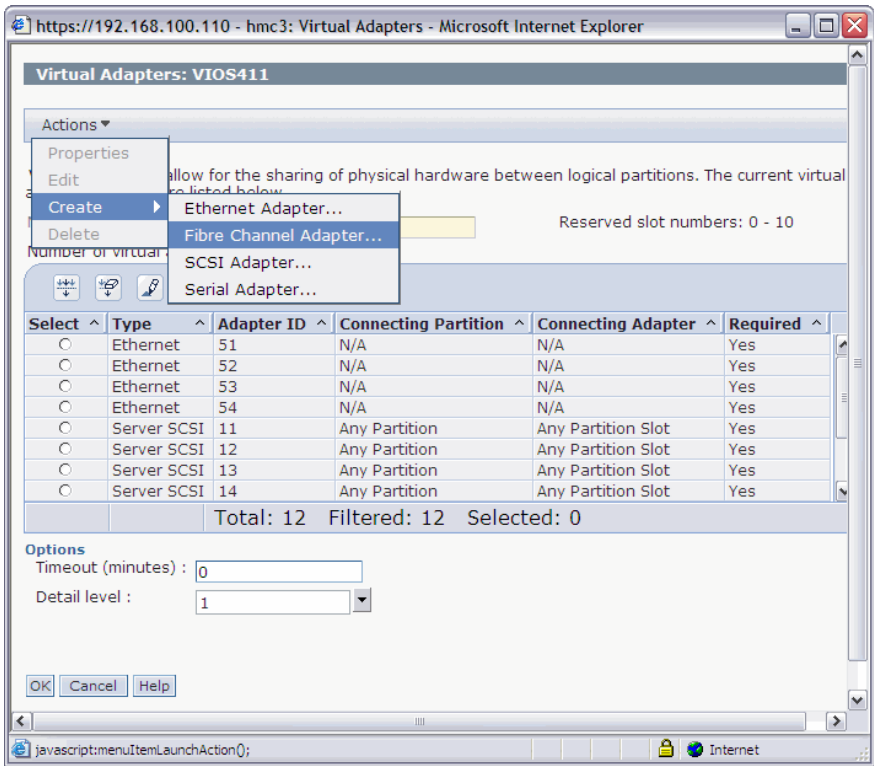

Figure 7-3 Create Fibre Channel server adapter
- c. Create a virtual Fibre Channel server adapter. Select **Actions** \varnothing **Create** \varnothing **Fibre Channel Adapter**, as in Figure 7-3.